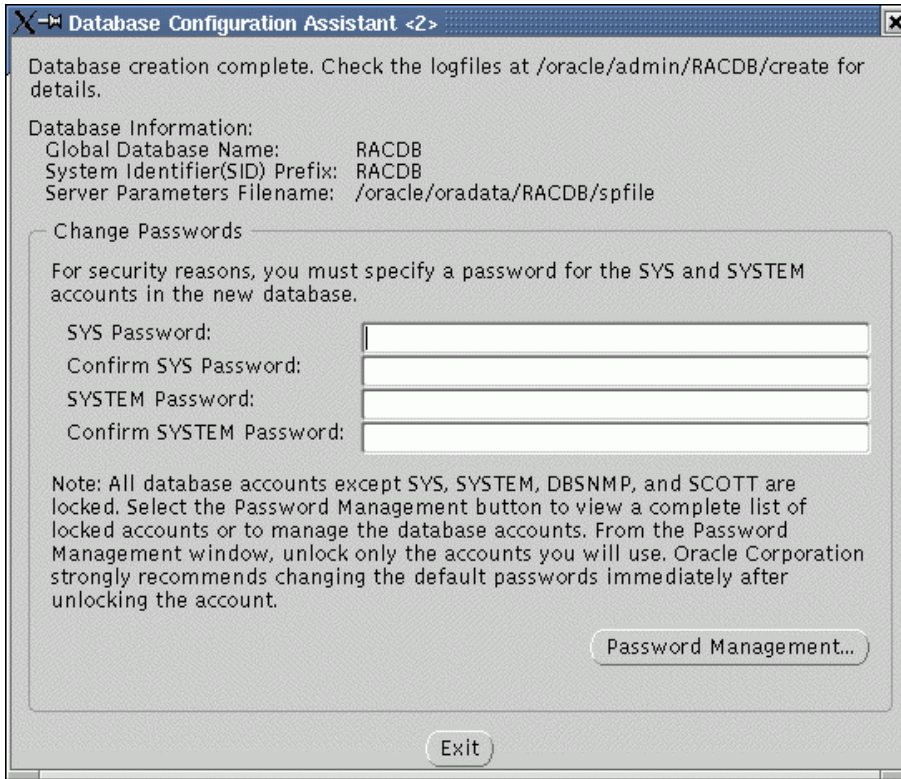

Figure 90. dbca password management
21. When the database creation is completed, `dbca` displays the screen shown in Figure 90, asking for new passwords. Enter the passwords and click **Exit**.